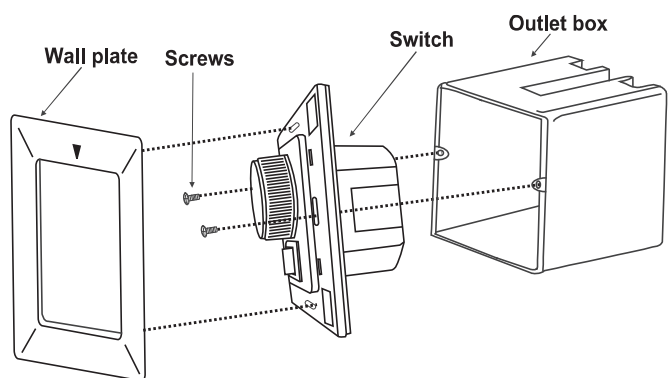

Figure 9
4. Connect, if present, the wall speed control's ground wire directly to one of the screws from the outlet box. (Fig. 9)
6. Push the wall plate to the wall speed control. (Fig. 9)